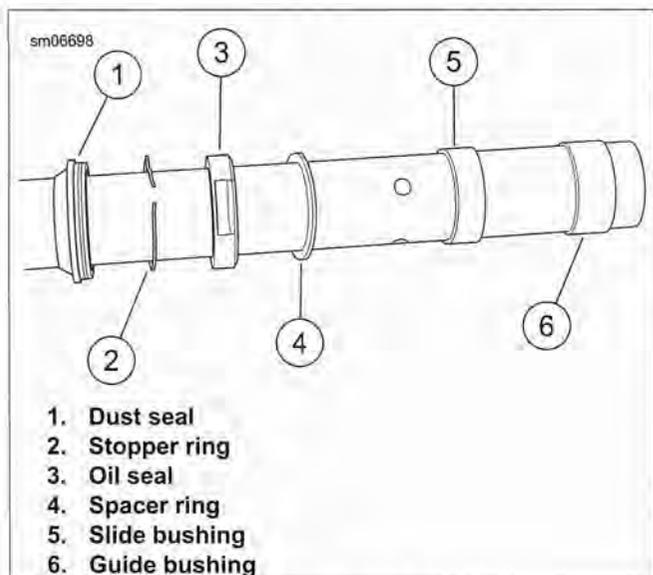

Figure 2-155. Inner Tube Components
1. See Figure 2-155. Install on the inner fork tube:
- a. Dust seal (1)
- b. Oil seal stopper ring (2)
- c. Seal with the stamp side down (3)
- d. Seal spacer with the chamfer up (4)
- e. Guide bushing (6)
- f. Slide bushing (5)